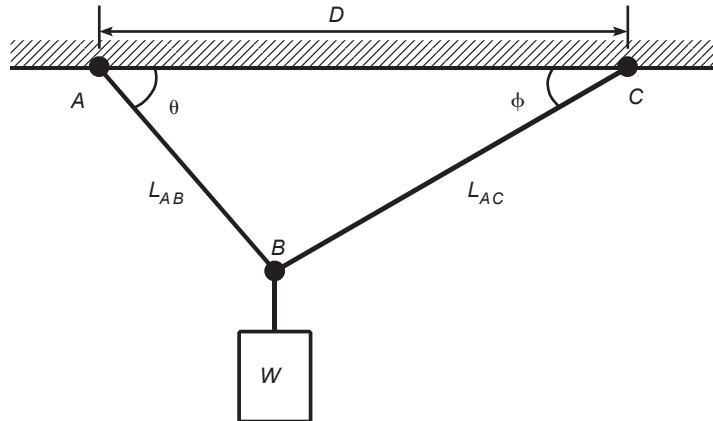

Figure P35
35. A weight  $W$  is supported by two cables anchored a distance  $D$  apart (see Figure P35). The cable length  $L_{AB}$  is given, but the length  $L_{AC}$  is to be